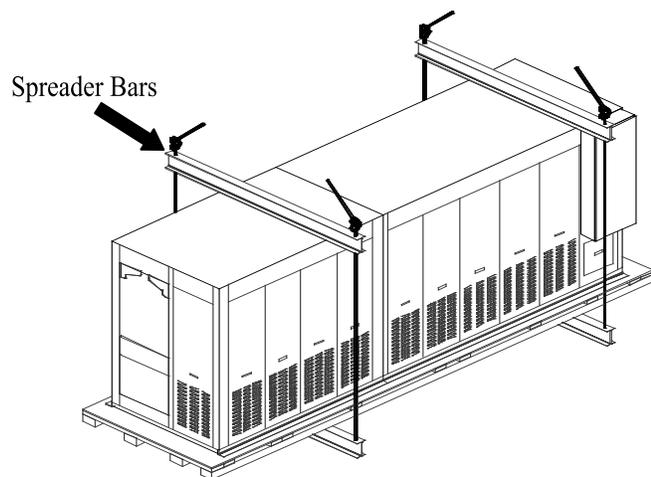

Figure 1 – CFS 2100 shown
**Use spreader bars to lift and move tunnel (Figure 1). Using only a sling could bend the panels.**